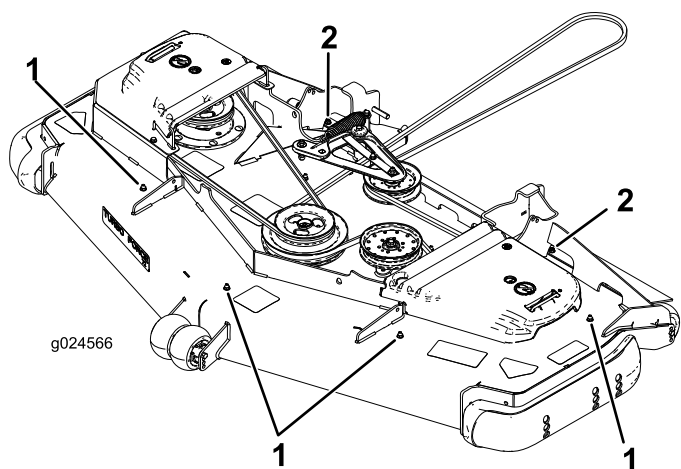

Figure 2
- For 72-inch decks, remove the 4 hex-socket screws (5/16-18 x 3/4 inch), the flanged nuts plugging the exposed mounting holes in the deck, and the inboard-tire-flap fastener on each side (Figure 2).